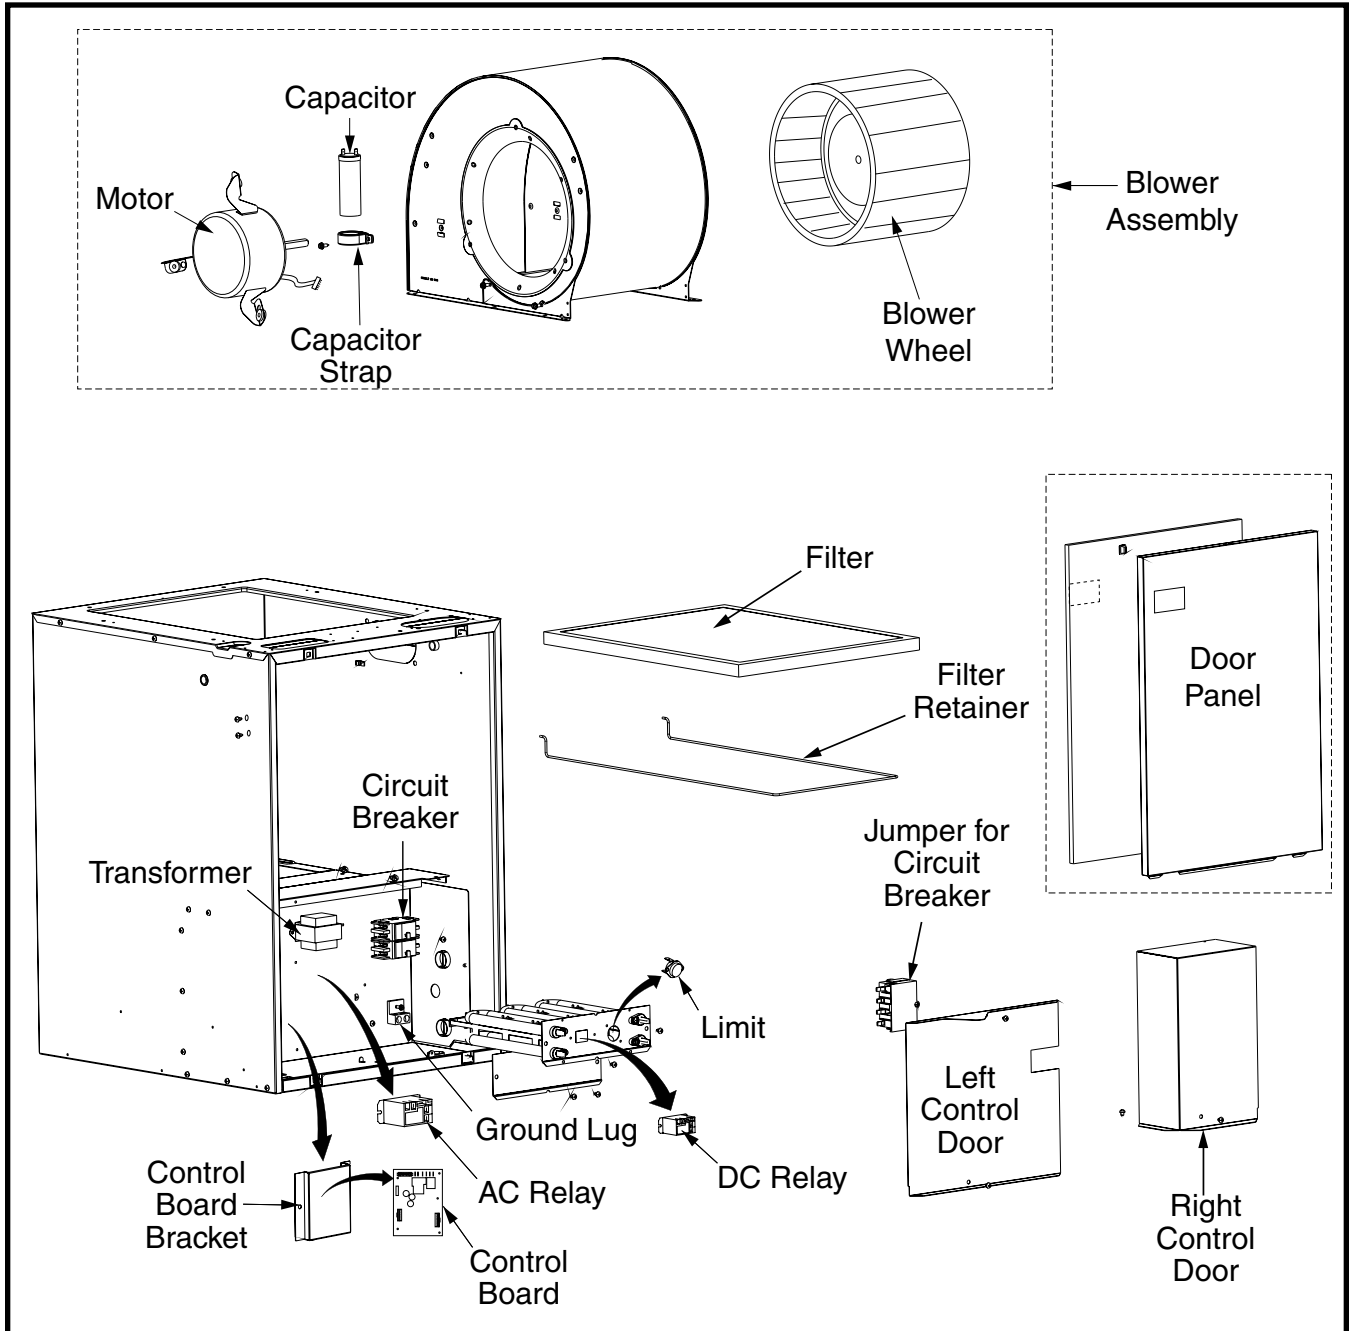

Figure 19. RE9X Furnace Components
It is recommended that the line voltage (240 VAC) to the furnace be supplied from a dedicated branch circuit containing the correct fuse or circuit breaker for the furnace. For minimum circuit ampacity and maximum over-current protection, see Table 6. See unit wiring diagrams (Figure 23, Figure 24, Figure 25, & Figure 26) for wiring details. Electrical components are shown in Figure 19 (page 16). Supply circuit requirements are listed below:
6. Connect service ground wire(s) to grounding lug(s) provided. One ground is required for each supply circuit used. See Figure 19 (page 16).